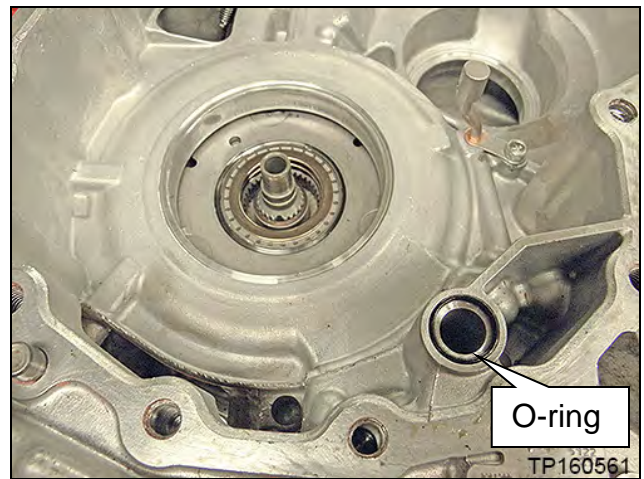

Figure 15F
13. Replace the O-ring on the CVT case side with a new one; discard original O-ring (Figure 15F).